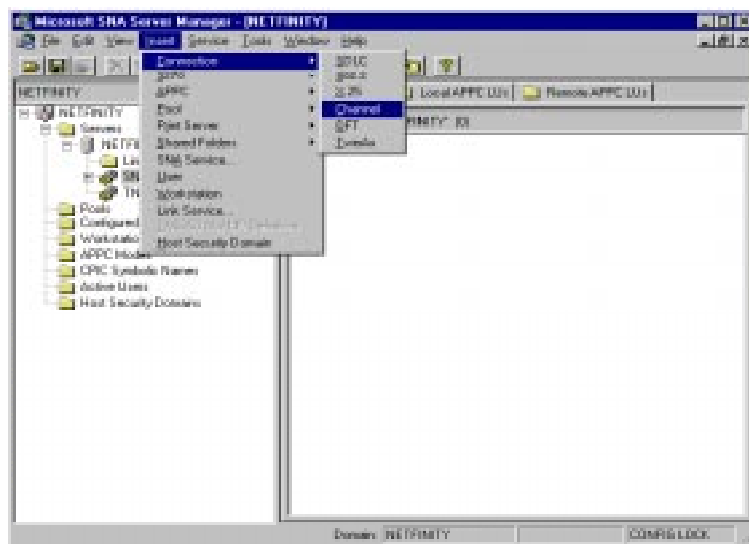

Figure 8-11. Inserting a New ESCON Connection
2. Using your mouse, menu select **I**nsert, **C**onnection, and **C**hannel as shown in Figure 8-11).